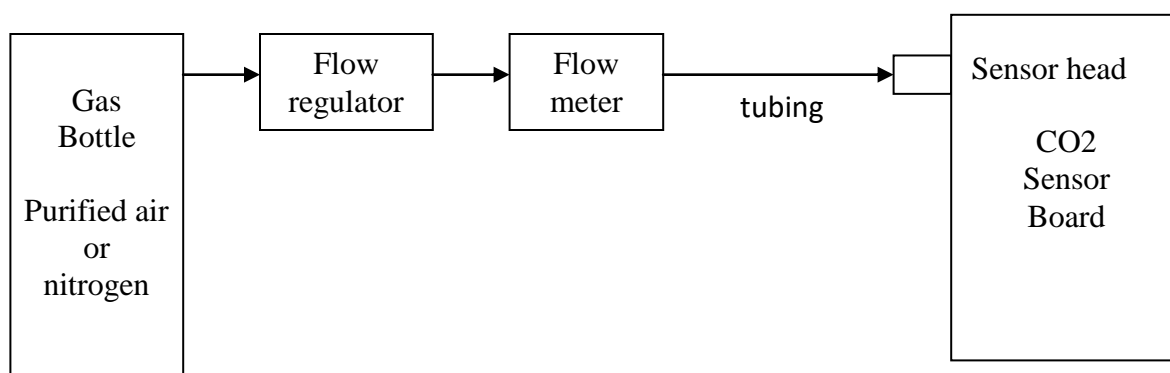

Figure 1: Calibration setup
1. Connect the calibration setup as shown in figure 1. Turn on the regulator of purified air/nitrogen bottle and allow purified air/nitrogen to flow into the gas inlet at a rate of 50cc/min.